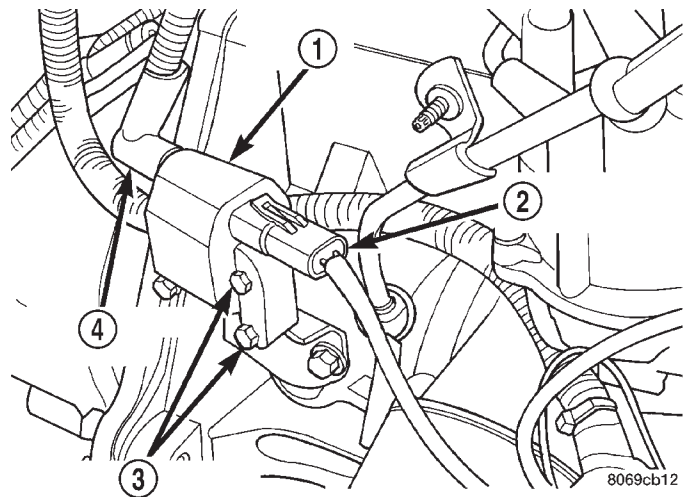

Fig. 5 Ignition Coil—2.5L Engine
(4) 2.5L Engine: Inspect ignition coil primary connection. Verify coil secondary cable is firmly connected to coil (Fig. 5).